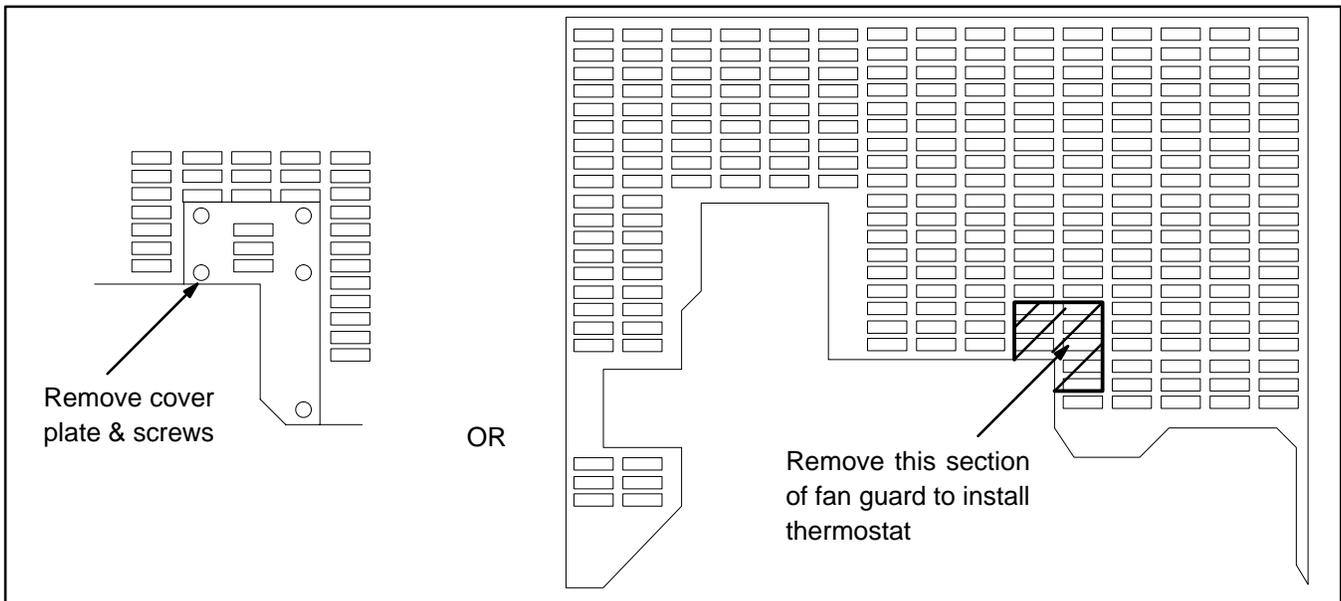

Figure 4. Top Fan Guard Material Removal.
16. Trim the top fan guard to accommodate the thermostat's new location. See Figure 4.
14. Remove cover plate 276693 and screws X-794-1 (qty. 5) and discard them. If the top fan guard does not have the cover plate, then it must be trimmed to accommodate the thermostat's new location. See Figure 4.